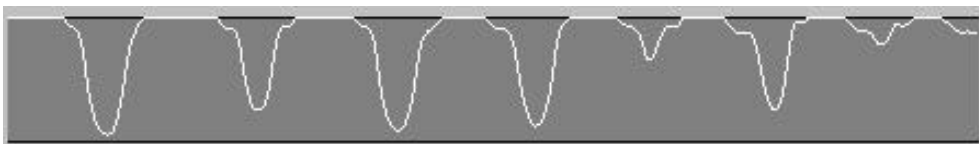

Figure 22 – Clipped Waveform
- Sometimes the graph will not be centered, and one side of the signal will **clip**. Fig 22 shows an example of this. If clipping occurs, adjust the offset to move the signal up or down. When the waveform is centered again, continue adjusting the gain.